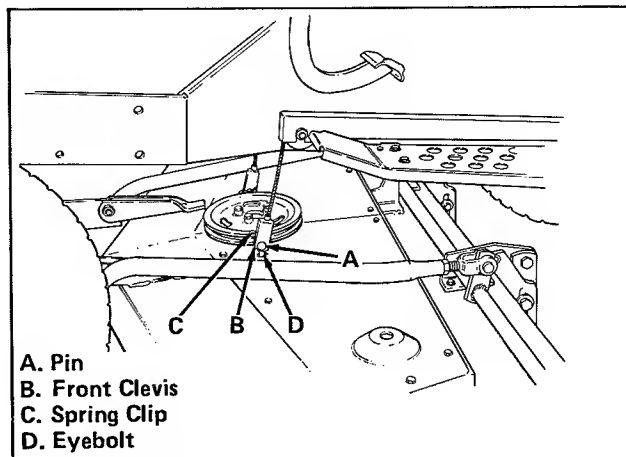

Figure 5. Attach Lift Cables to Mower
8. Attach front clevis (item B, figure 5) of left lift cable to eyebolt (item D) on mower. Use pin (item A) and spring clip (item C) supplied with mower.
6. Remove spring clips (item C, figure 5) and pins (item A) to detach lift cables from mower. Install pins and spring clips on mower to prevent loss.